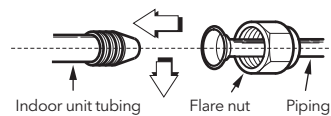

Fig. 8
- Sufficiently tighten the flare nut with fingers, and then tighten it with a spanner and torque wrench as shown in Fig. 8 & 9.